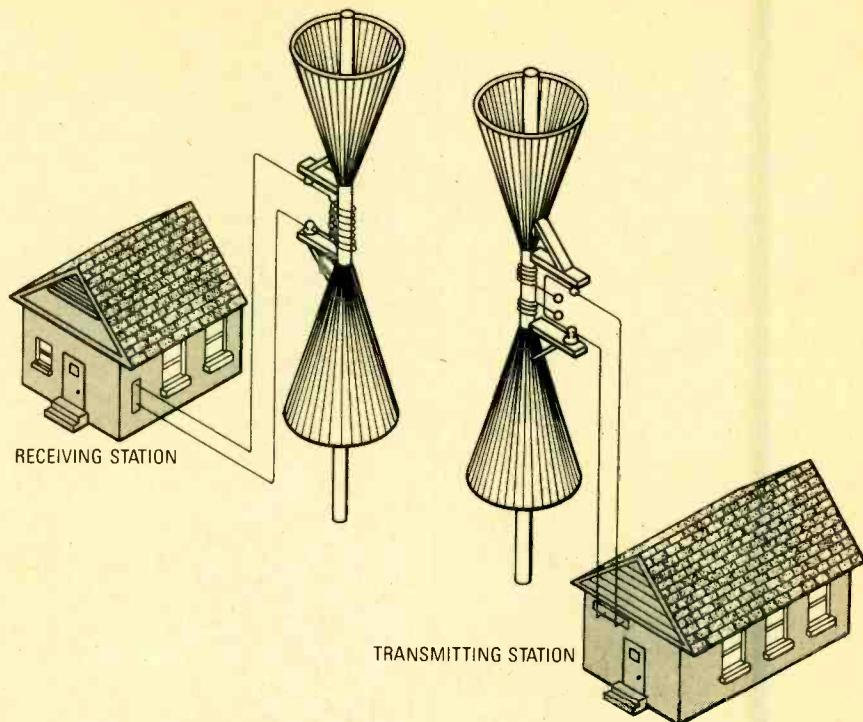

Fig. 4. Lodge's antenna designs provided frequency selectivity. The transmitter contained inductive coupling also.
The form of the antenna recommended by Lodge, however, achieved the required capacitance through construction of the dipole elements using multiple wires, or sometimes sheet metal, in the form of cones as shown in Fig. 4. Lodge then made the antenna frequency selective by adding a coil at the apex end of each of the two cones.
Fig. 4. As an option, you may want to add a DPDT switch between the output line of the CD player and the input to the circuit to allow you to select either your stereo headphones or your stereo system's speakers as the output device.
As an option, you may want to add a DPDT switch to the circuit-board assembly (as shown in Fig. 4) to allow the amp to be switched into and out of your stereo system. That arrangement allows you to select either your stereo headphones or your stereo system's speakers as the output device.
Fig. 4. The D-flip-flop can be configured to function as a toggle (T) flip-flop by connecting the D input to the \bar{Q} output, and connecting both the PR and CLR inputs to the positive supply rail, as shown here.
shown in Fig. 4. The clock (clk) input of the D flip-flop then becomes the equivalent of the T input of a T flip-flop. When operated in that mode, the D flip-flop (like the device it emulates) toggles (changes states) once for each input clock pulse. As with the T flip-flop, it takes two full pulses to complete one output cycle, so the frequency of the output is half that of the input.